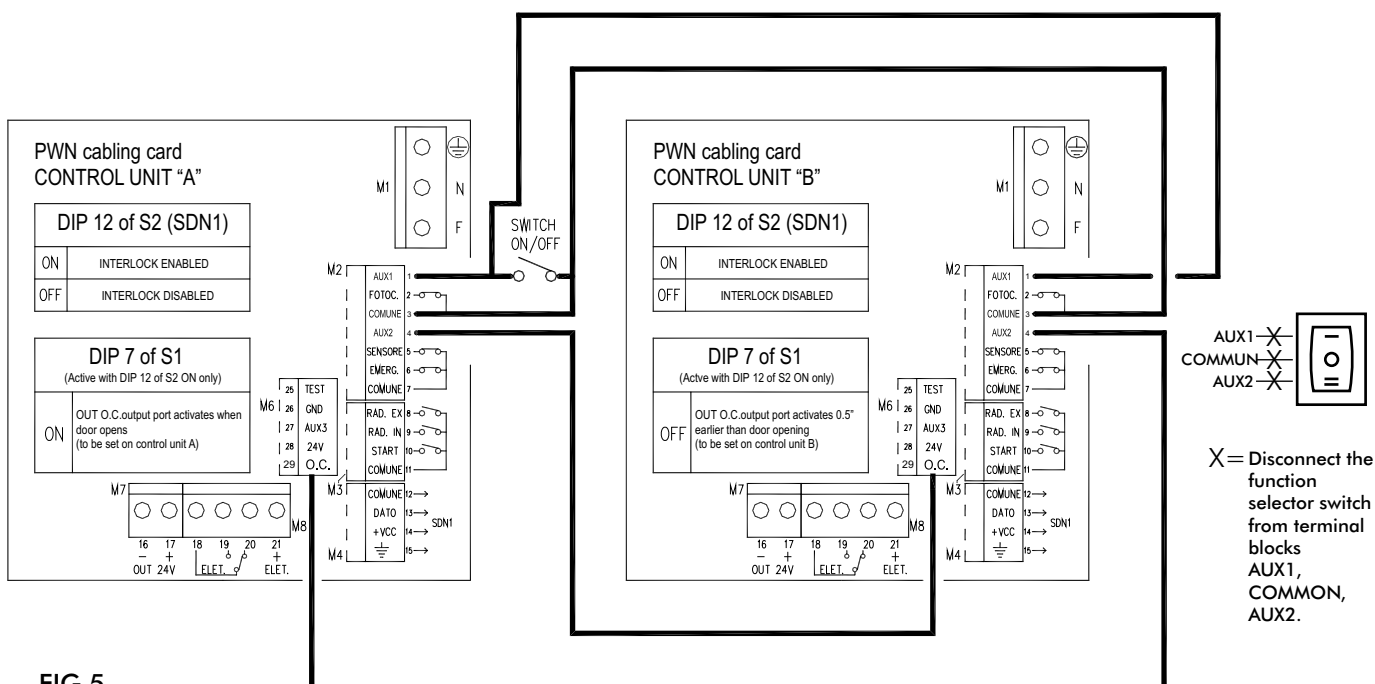

FIG.5
The diagram in fig.5 shows the electric connection between two NEPTIS control units controlling two automatic doors in INTERLOCK configuration.
**In case of two-wing NEPTIS door, perform the electric connection in fig.5 on the MASTER operator control unit.**